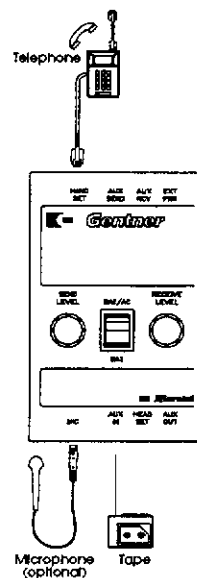

Figure 3
1. Set up Microtel as described in "General Use" (page 4) and shown in Figure 3.